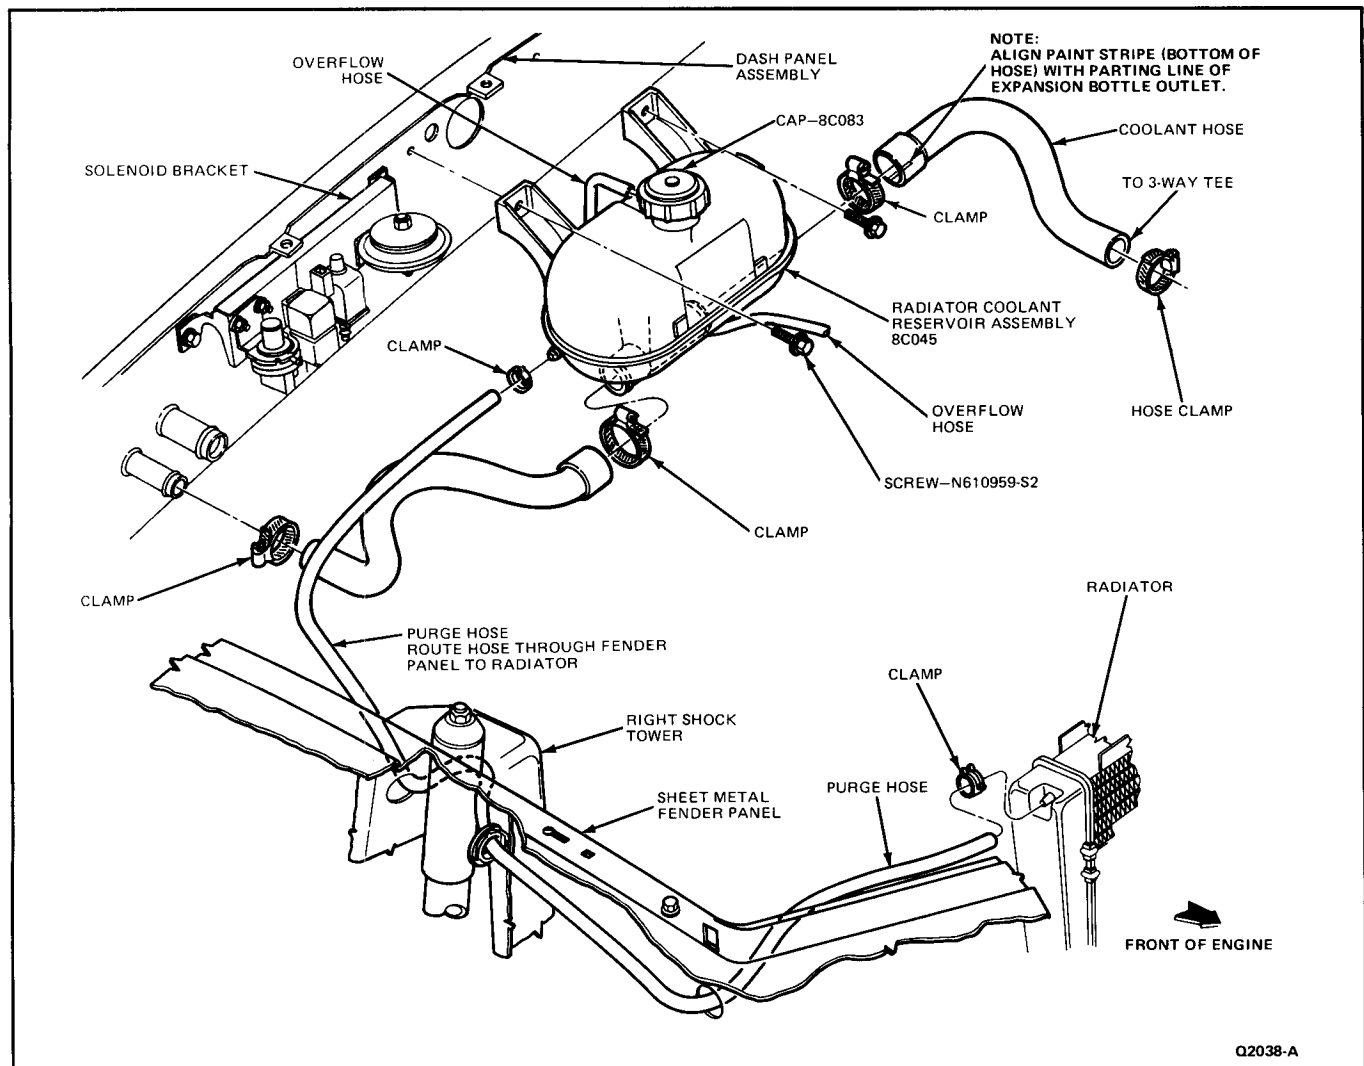

FIG. 2 Expansion Bottle Installation
3. Remove two bolts attaching expansion bottle to dash panel (Fig. 2).
1. Position expansion bottle to dash panel and install with two attaching bolts (Fig. 2).